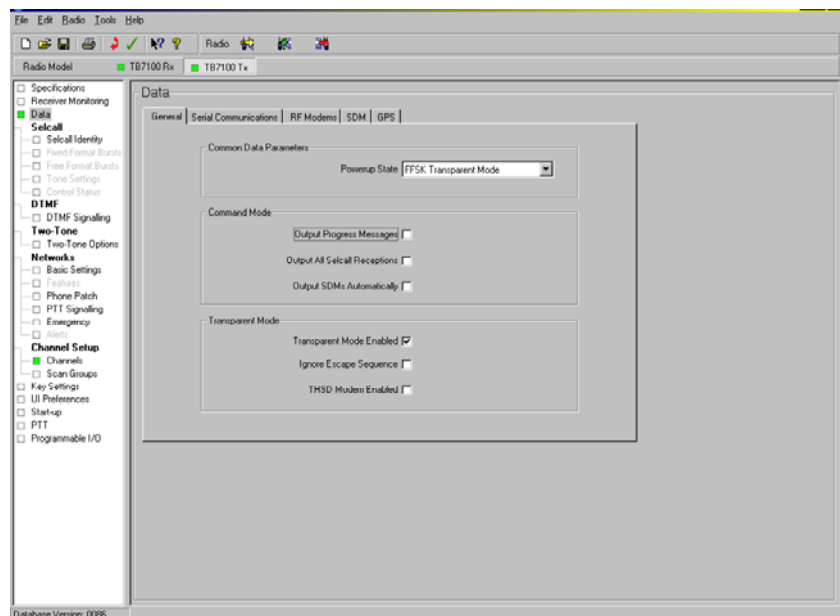

Figure 8
- Under Data>General set the 'Power up State' for 'FFSK Transparent Mode' and select 'Transparent Mode Enabled'. Leave all other options unselected. **Refer to figure 8.**